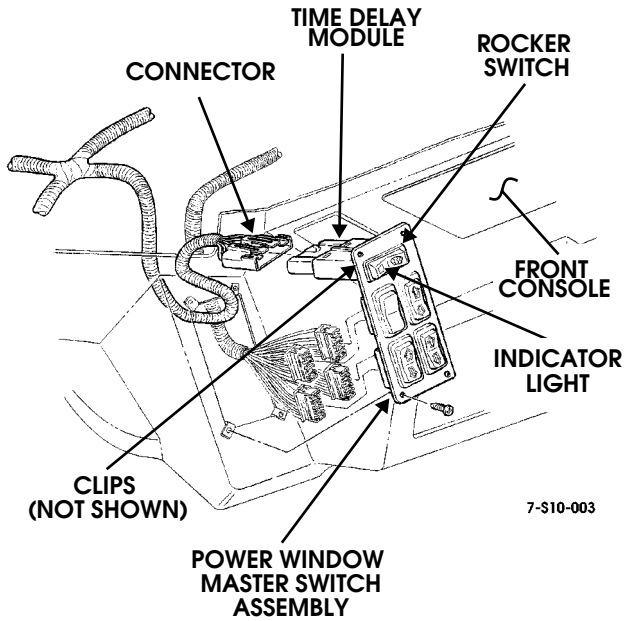
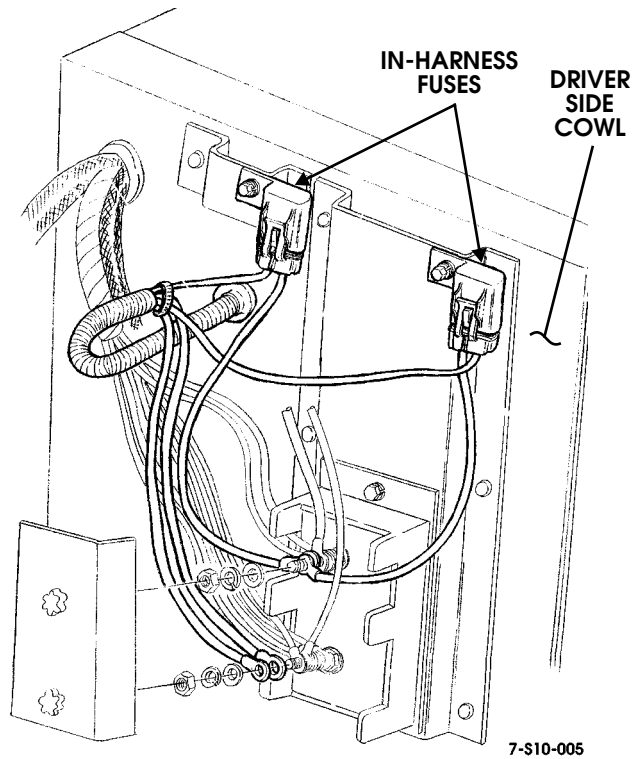
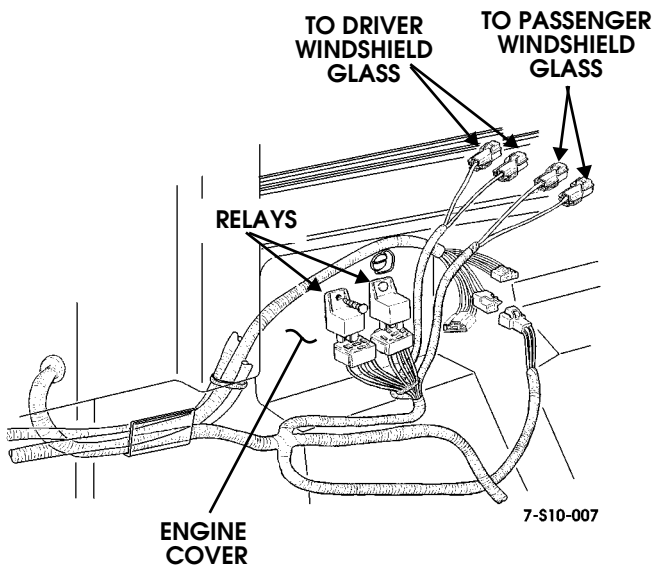

Figure 10-107: Rocker Switch/Time Delay Module Location
Figure 10-109: In-Harness Fuse Location
Figure 10-108: Relay Locations on Engine Cover
The optional heated windshield is capable of defrosting the windshield glass in less than 10 minutes at 0° F. The system is comprised of a rocker switch with an integrated time delay module (Figure 10-107), two relays (Figure 10-108), two in-harness fuses (Figure 10-109), and an in-glass heating element.
The rocker switch/time delay module is mounted on the power window master switch on the driver side of the front console (Figure 10-107).
1. Remove screws and pull power window master switch from console (Figure 10-107).